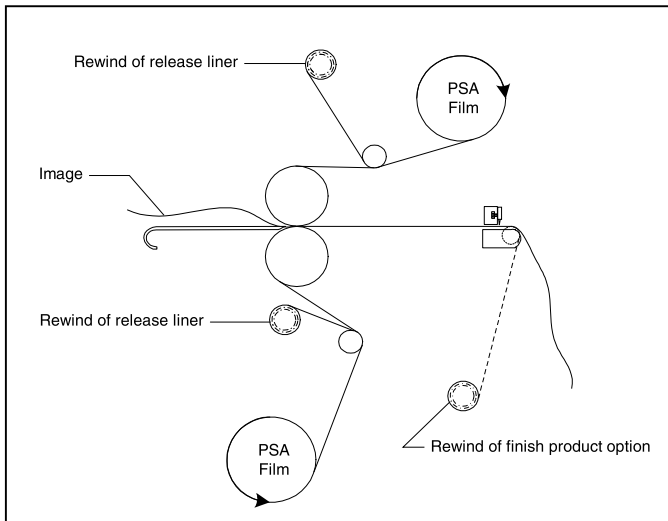

Fig. 34
#### TIPS FOR PSA ENCAPSULATION (Figure 34)
1. Load the laminator as illustrated in Figure 34.